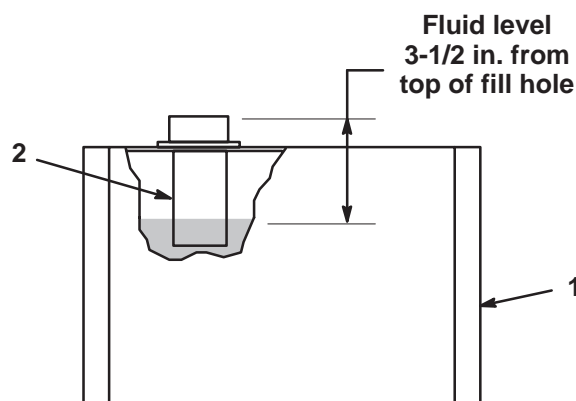

Figure 14
2. Remove the cap from the top of the reservoir and check the fluid level. The fluid should be approximately 3-1/2 in. (89 mm) below the top of the fill hole (Fig. 14).